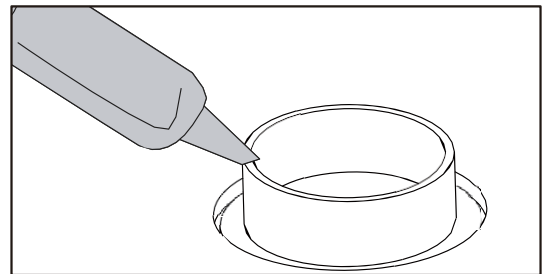

FIG 2 Apply construction adhesive to all feet.
- 3** Apply construction adhesive to all feet and install base into alcove (Fig 2).